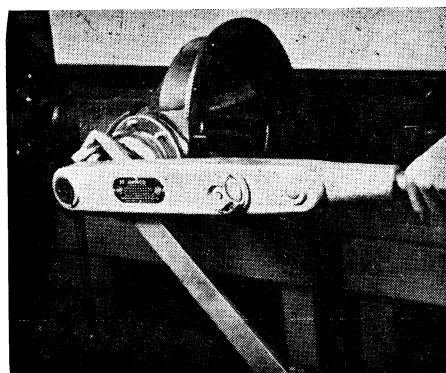

Fig. 106 Removing pinion shaft nut
8. Place pinion and cage over carrier studs. Hold yoke as shown in Fig. 106 and tighten pinion shaft nut to 300-400 foot-pounds torque.